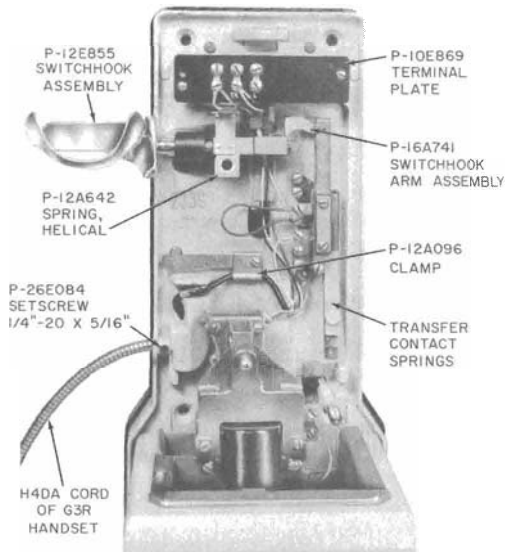
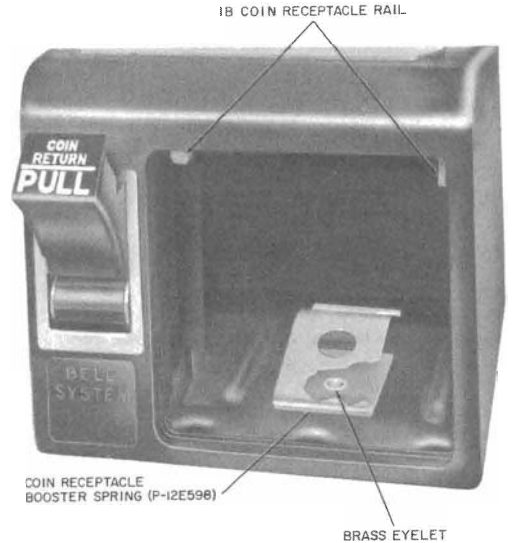
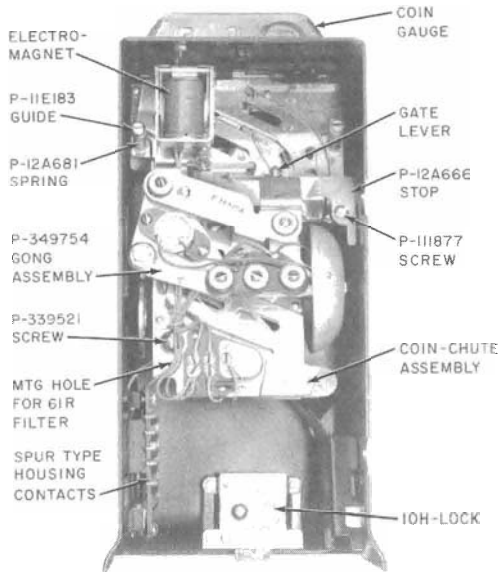

Fig. 4—Typical Backplate Assembly
Fig. 6—Typical Lower Housing, Less Coin Receptacle Door
Fig. 5—Typical Upper Housing, Rear View
1.03 The coin collector consists of a cast iron or aluminum backplate assembly (Fig. 4), a steel upper housing Fig. 5, and a steel lower housing (Fig. 6).
and one P-339521 screw (Fig. 5). Older coin collectors use two P-12A680 screws instead of guides. Coin chutes not associated with washer reject mechanisms are mounted with three P-339521 screws.
2.19 A 61R radio-frequency suppression filter is not considered a part of the chute assembly. The filter, when used, mounts on the rear of the coin chute at the lower left corner. A mounting hole (Fig. 5) is provided. Dial postpay coin collectors are normally equipped with 61R filters and are identified by a red dot located on the back of the coin gauge.
2.21 The self-locking receptacle consists of a 1B coin receptacle equipped with a 1C, 1D, or 1E coin receptacle cover. Use of the coin receptacle requires a 1A or 1B coin receptacle rail on the mechanism base in the cash compartment (Fig. 6).
2.22 The P-12E598 coin receptacle booster spring (Fig. 6) reduces the clearance between the coin receptacle cover and the rail. This prevents collected coins from falling out of their normal path on to the coin receptacle cover.
- 2.23 The lower part of the coin return chute is located in the lower housing to the left of the cash compartment (Fig. 6).
- 2.28 Parts mounted on the backplate are illustrated in Fig. 4.